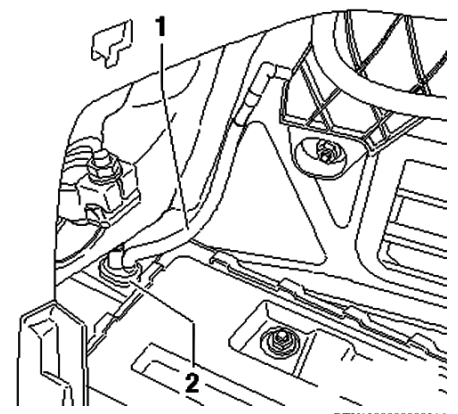

Fig. 6 Central gas venting hose installation
6. Install central gas venting hose, ensuring that central gas venting hose (1) is inserted into rubber grommet (2) and is not kinked after installation, **Fig. 6**.